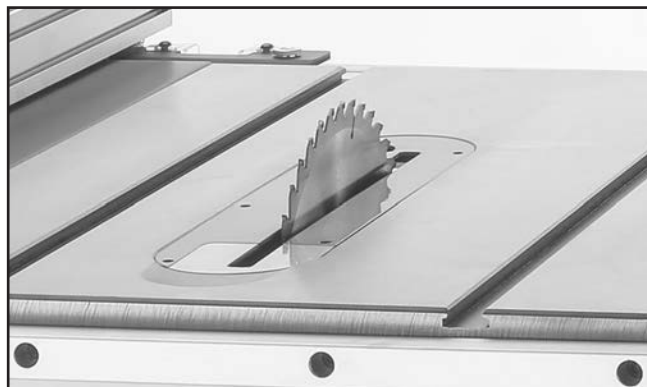

Figure 24. Example of blade and table insert installed.
14. Install saw blade (see **Figure 24**) as instructed in **Blade Installation** on **Page 30**.
15. Install table/dado insert in table throat (see **Figure 24**). Check to make sure it is flush and adjust if necessary (see **Table/Dado Insert Adjustment** on **Page 69** for more information).